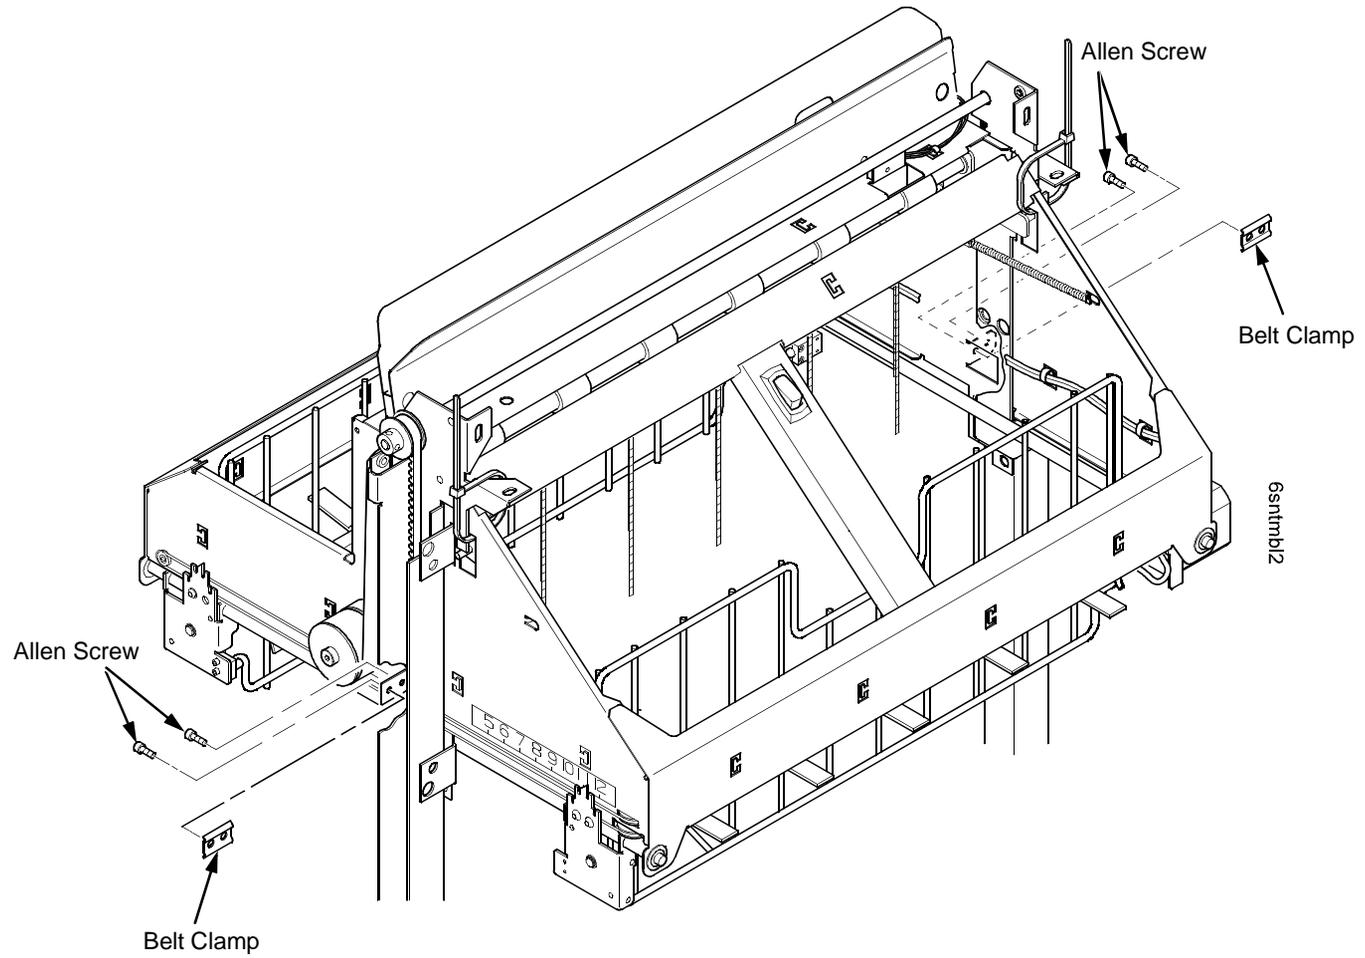

Figure 105. Removing the Belt Clamps
7. Remove two Allen screws from the belt clamp that secures the timing belt to the stacker frame. (Figure 105.)